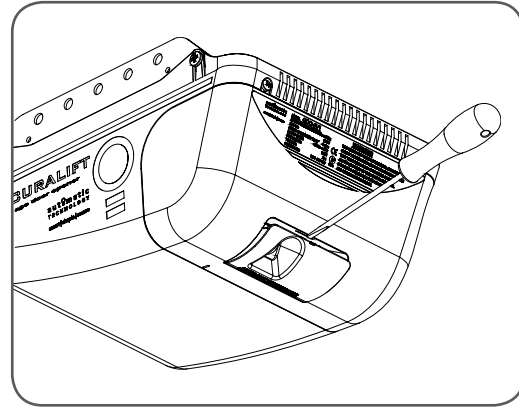

fig 23
- Remove the button cover with a small blade screwdriver (**Fig. 23**).